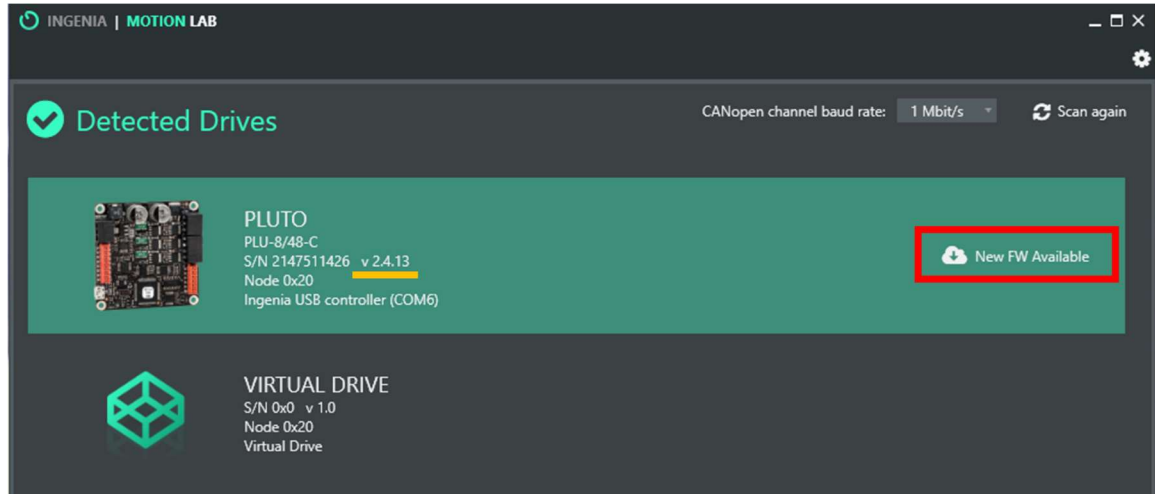

Fig. 12: Detected Drives window after MotionLab loads displaying the current firmware version.
Occasionally, the firmware of the servo drive (i.e., Jupiter and Pluto drive) will need to be updated. You will know if a firmware update is available for the connected drive if the text **"New FW Available"** is displayed next to the servo drive as shown in **Fig. 12** below.
- 3) Click the "New FW Available" button as shown in **Fig. 12**.
- 2) Start the Ingenia MotionLab software by clicking on the “MotionLab” icon on your desktop. The MotionLab window should open (as shown in **Fig. 12**).